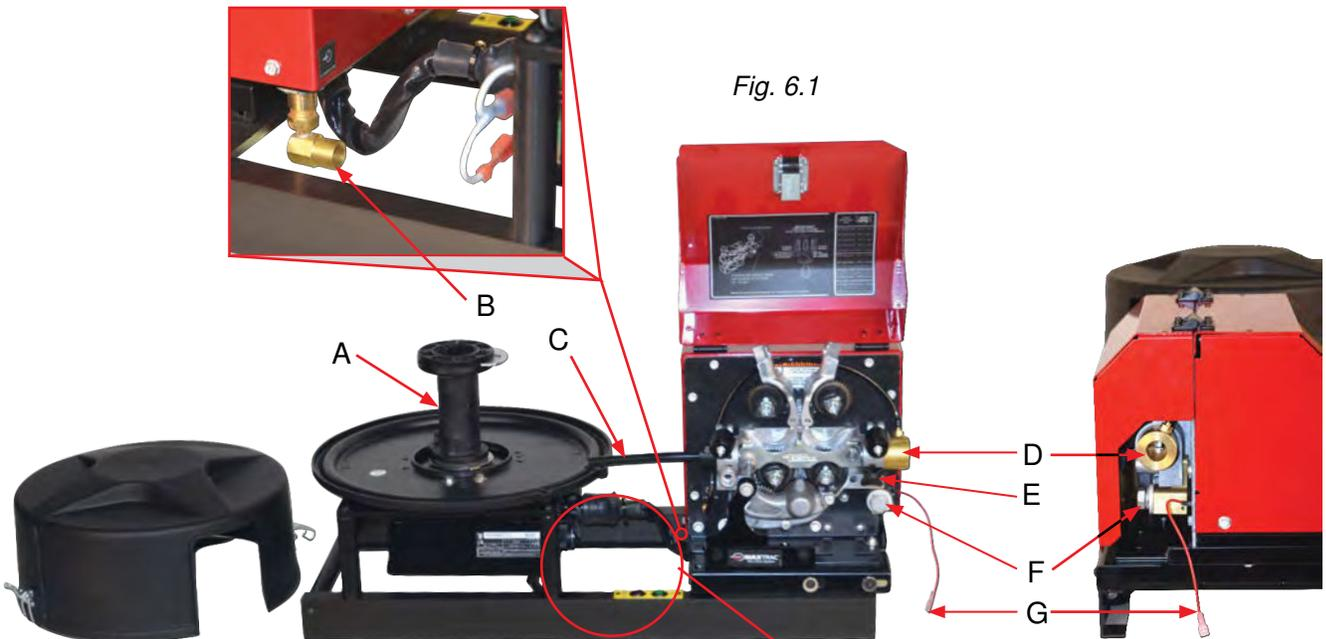

Fig. 6.1
- Connect female cable end (Fig. 5.2, Item B) to receptacle on Lincoln Electric® Auto Drive 19 (Fig. 6.1, Item H)
- Connect lug on welding power cable (Fig. 5.5 or 5.4, Item C) to bolt connection (Fig. 6.1, Item F)
- Connect gas hose fitting (Fig. 4.5, Item B) to wire feeder gas fitting (Fig. 6.1, Item B)
- Insert male end of welding gun cable (Fig. 4.6, Item B) in to female socket in Lincoln Electric® 4R220 Auto Drive Wire Feeder (Fig. 6.1, Item D) tighten retaining bolt (Fig. 6.1, Item E)
- Connect red wire on welding gun cable (Fig. 4.6, Item C) to red wire on Lincoln Electric® 4R220 Auto Drive Wire Feeder (Fig. 6.1, Item G)
- Remove cover and the mount wire spool to the spindle (Fig. 6.1, Item A) and lock in place with locking collar.
- Feed end of wire, by hand, into tube (Fig. 6.1, Item C) and into Lincoln Electric® 4R220 Auto Drive Wire Feeder up to first set of wire feed rolls. **Note: Make certain correct wire feed rolls are installed into Lincoln Electric® 4R220 Auto Drive Wire Feeder.**